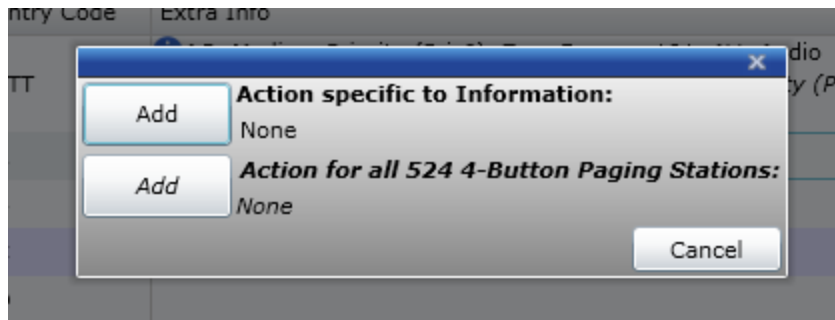

Figure 6-24: Add New Action
**Note:** Any time you attempt to add, edit, or delete a button action, you will be prompted to select either the *Device Specific* or *Default* action with a dialog box similar to the one shown in Figure 6-24.
Figure 6-24 shows the prompt that will appear if you selected to Add or Edit a button that does not have either a *Device Specific* or *Default* action assigned. Note that you can select to **Add** either type of action to the button by clicking on the appropriate button. This will take you to the standard action definition window. Refer to the **Action Types** section of the documentation for information on defining individual actions. Click the **Cancel** button to close the prompt without making any changes.